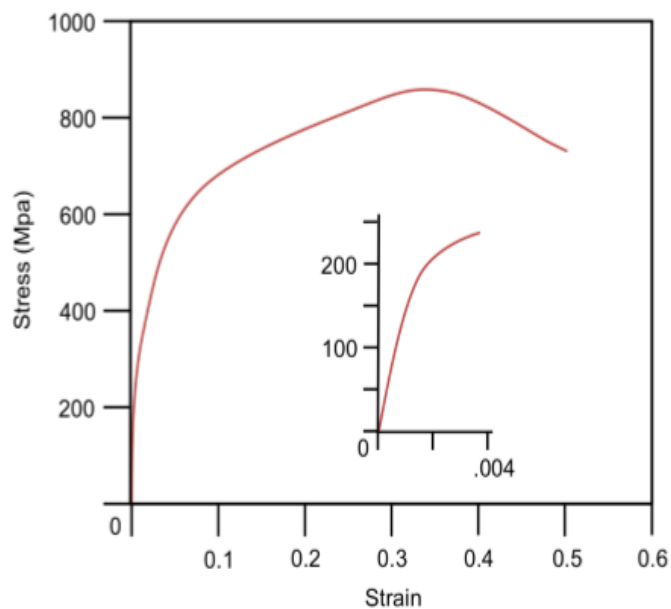

Figure 2
- (b). Figure 2 shows the tensile stress-strain behavior for a metal cylinder with length 0.5 m and radius 0.02 m. (Your answers should include the necessary steps, equations or procedures).